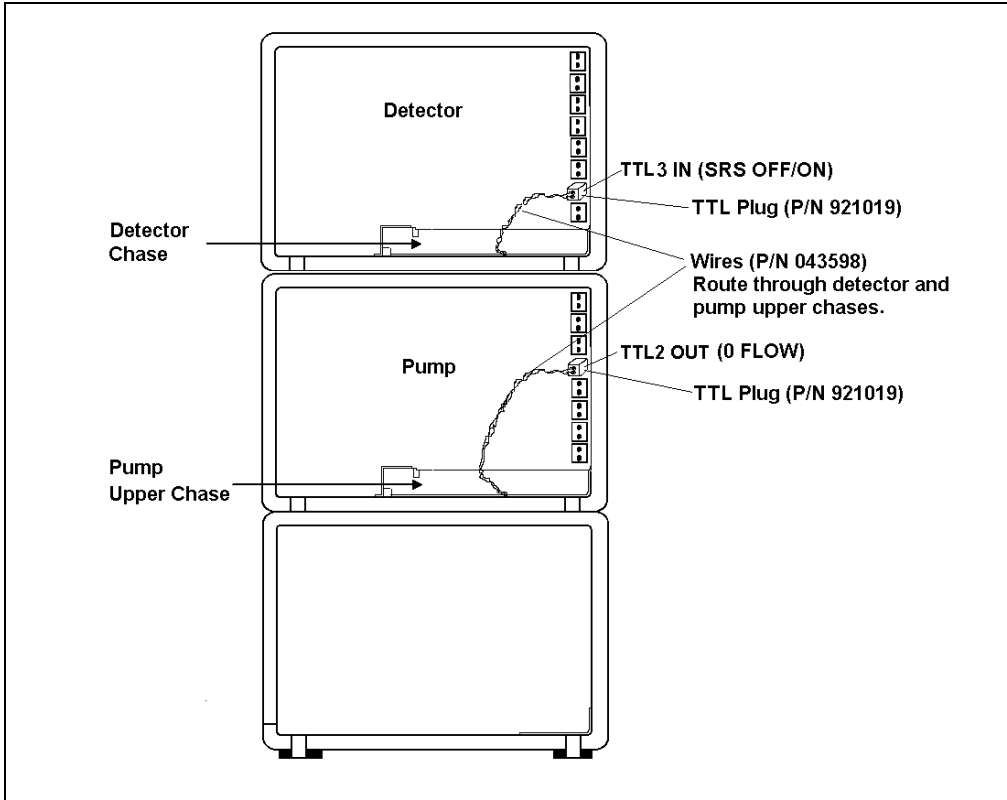

Figure B-6. TTL Connections for SRS Power Control (Detector and pump front views without front doors)
5. Plug one end of the cable into **TTL2 OUT** on the GS50. (The TTL connectors are located behind the upper door.) Route the cable through the upper chase of the GS50 and into the upper chase of the detector (see Figure B-6). Plug the other end into **TTL3 IN** on the detector; be sure to maintain the wire orientation described in Step 4.